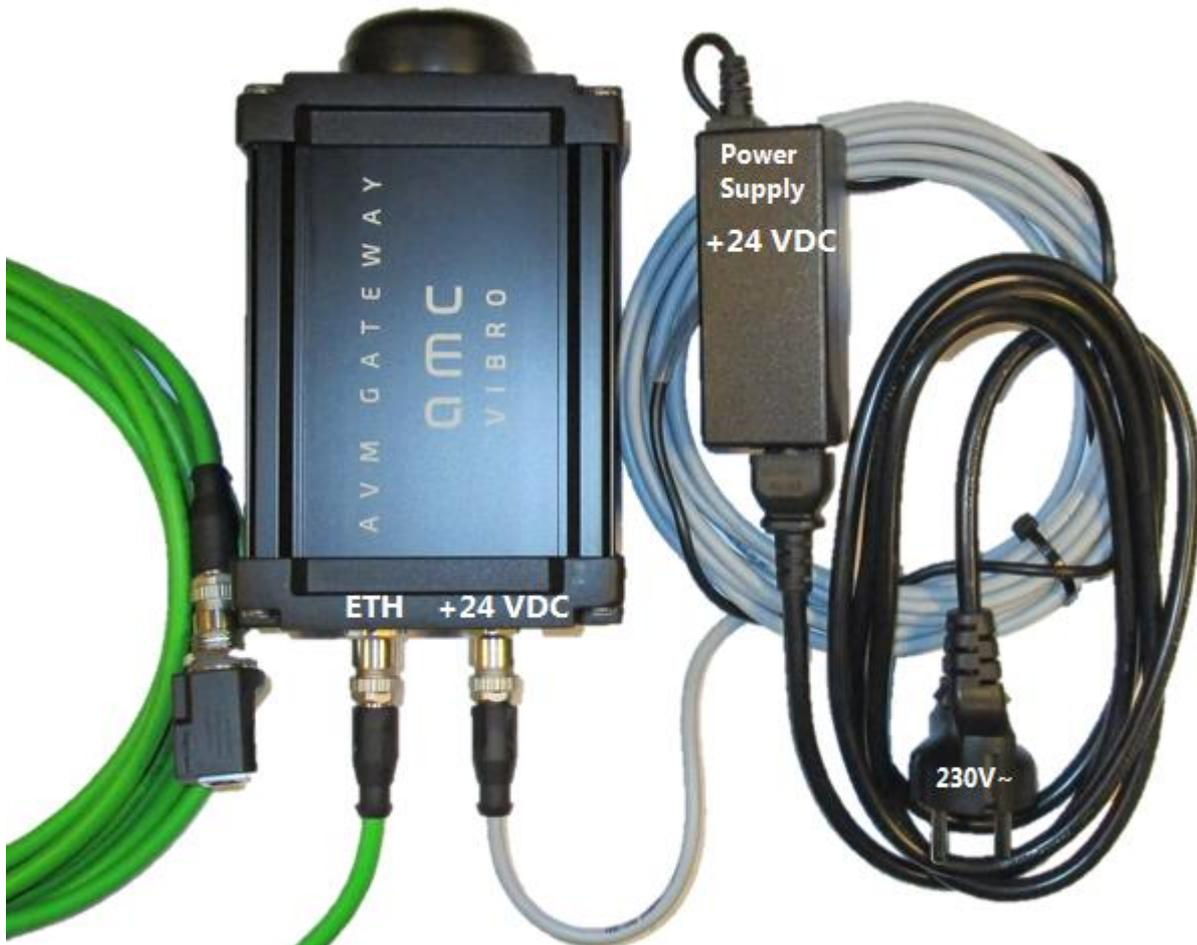

Figure 38. AVM GATEWAY description of connectors
2. Connect the AVM GATEWAY to the power supply as shown in figure 38. After connecting the module to the power supply it will automatically start. After two minutes it will be ready to work and the website will respond.